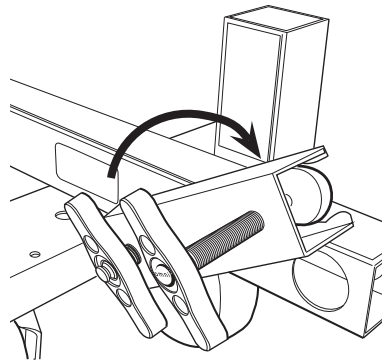

fig.5
**Loading:** Before loading, fold down the collapsible uprights that contain the material clamps. (see fig. 5)